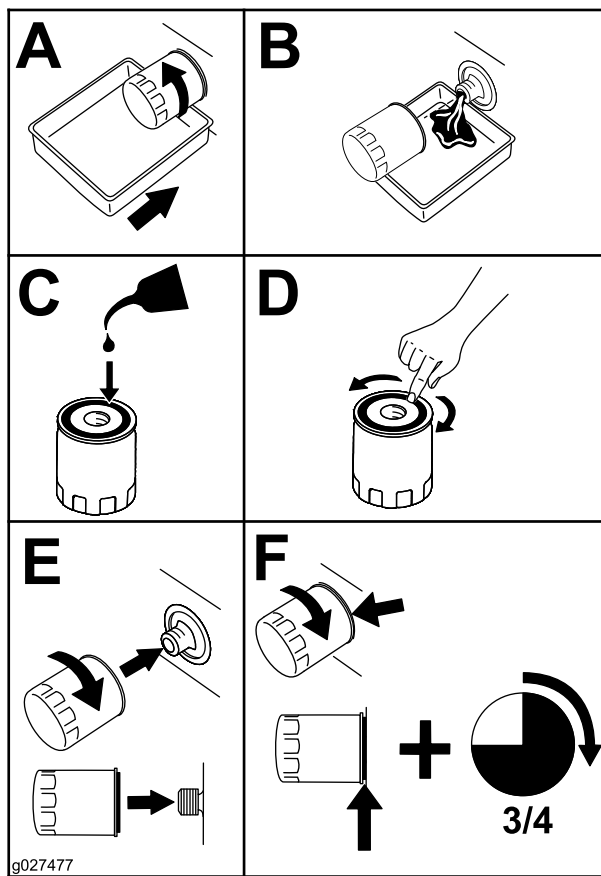

Figure 48
2. Change the engine oil filter (Figure 48).